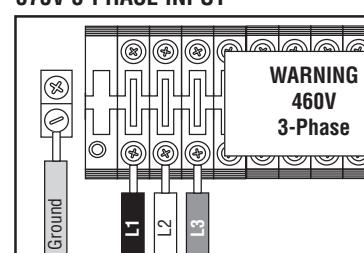

Fig. 2
5. To connect a 460Vac input, remove ONLY the 460V 3-Phase violator label. Connect 12-14awg wire to terminals 4 (L1), 5 (L2) and 6 (L3) (optional). Connect the earth ground to the ground lug on the left side of the enclosure. (Fig. 2)